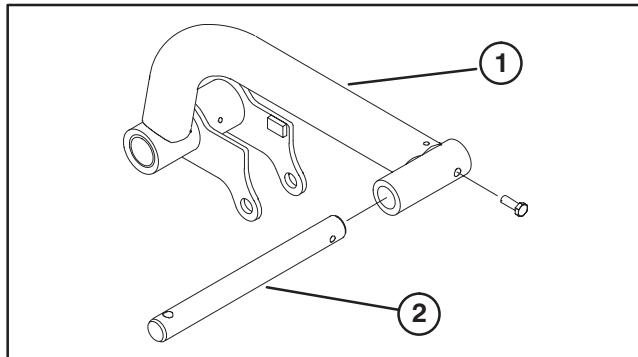

Figure 13
- Insert a pivot rod into each (R.H. & L.H.) lift arm and align mounting holes (Fig. 13).